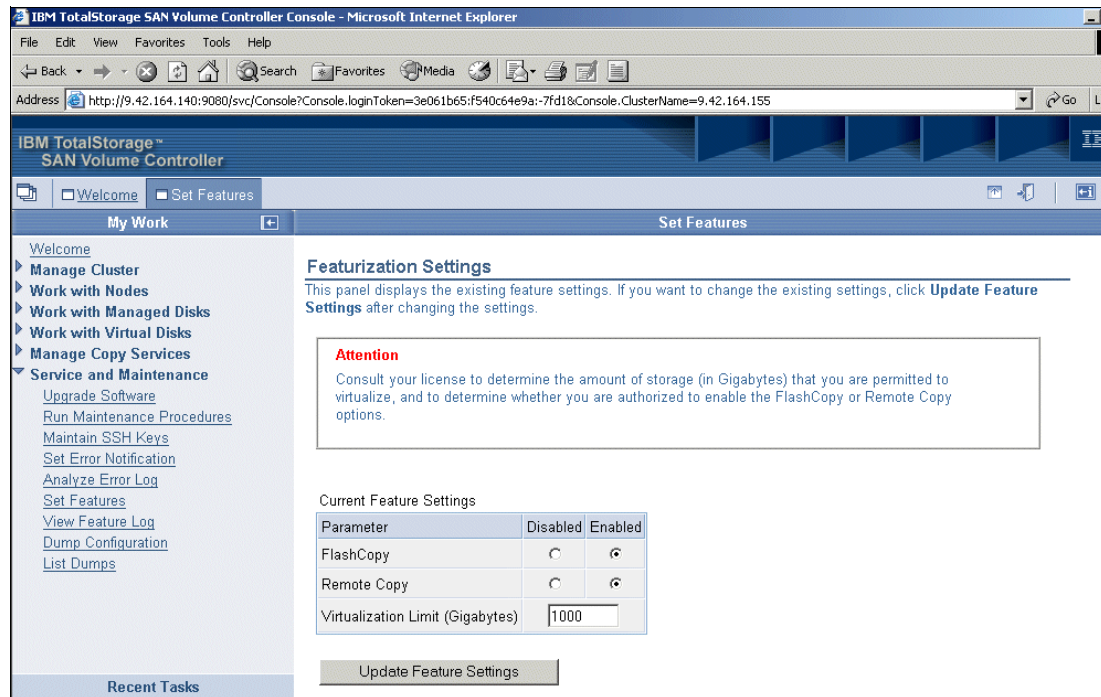

Figure 9-92 Setting features
2. On the Featurization Settings panel (Figure 9-92), consult your license before you make changes in this panel. If you purchased additional features (for example, FlashCopy or PPRC) or increase the capacity of your license, make the appropriate changes. Then click the **Update Feature Settings** button.